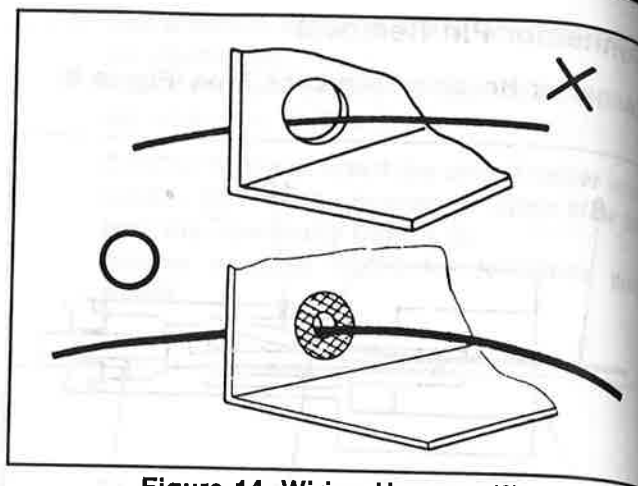

Figure 14. Wiring Harness (2)
3. Use a grommet or guard tube to protect the wiring harness from contacting a sharp edge or surface (figure 14).